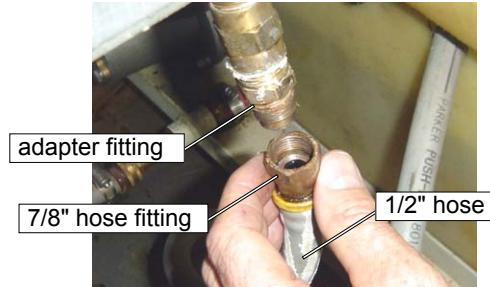

Figure 7-26
- Connect 1/2" water hose using a 7/8" open wrench to the adapter fitting beneath the ADO (Figure 7-26).